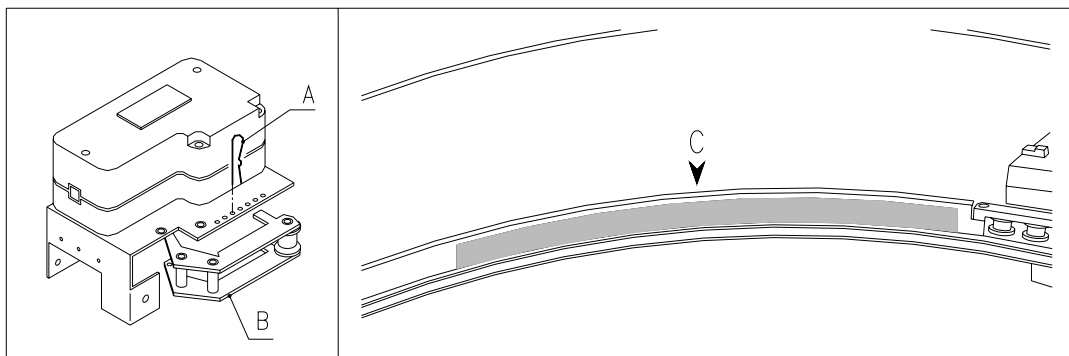

FIG. 16
8.7 REGLAGE DE LA TENSION DE LA COURROIE (FIG. 16)